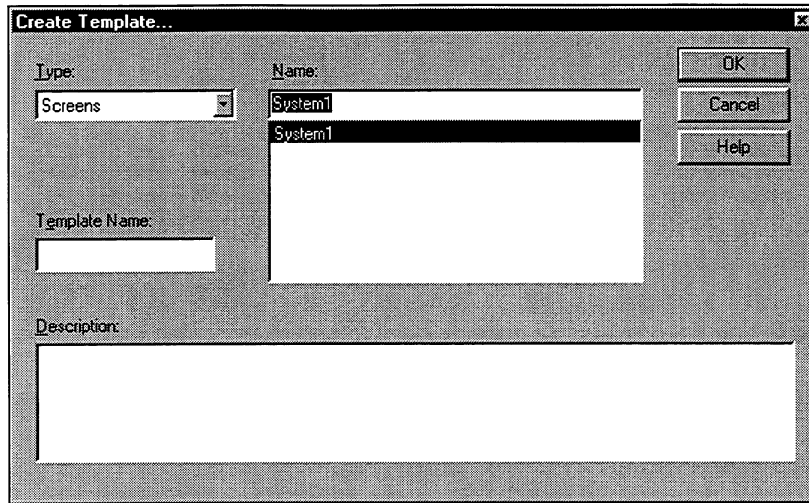

Figure 8-12. Create Template From Dialog Box
3. Select the Create Template command from the Symbol menu. The Create Template dialog box opens, as shown in Figure 8-12.